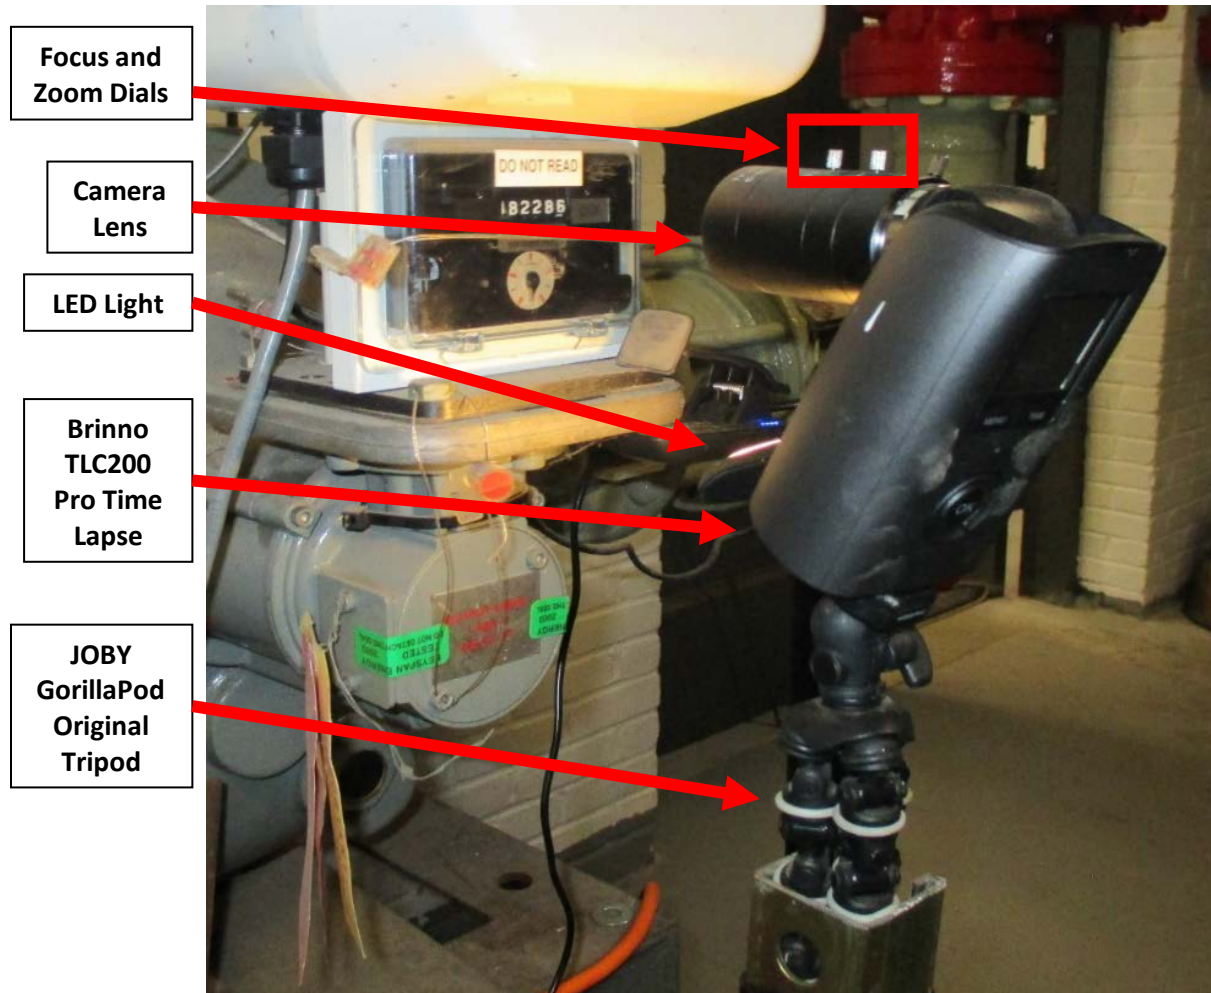

Figure A.11.10: Brinno TLC200 Pro Time Lapse Camera field setup for a boiler fuel consumption meter.
1. At the field site, install the JOBY GorillaPod Original Tripod into the base of the Brinno TLC200 Pro Time Lapse Camera. Then place the light on the JOBY GorillaPod Original Tripod or any other applicable surface in which the LED light shines on the meter. The setup should look like what is shown on Figure A.11.10.
- a. Note that the lens that is installed onto the Brinno TLC200 Pro Time Lapse Camera is not the original stock lens that came with the camera. The lens was replaced in order to give the user the ability to adjust the zoom. This replacement lens is heavy enough that it is unable to hold itself in position on the Brinno TLC200 Pro Time Lapse Camera’s body. That is why as shown on Figure A.11.10, the Brinno TLC200 Pro Time Lapse Camera’s body is tilted at an angle, in order to hold the lens at the appropriate position to take time lapse photos of the meter. Please take note of this when setting up the Brinno TLC200 Pro Time Lapse Camera.
3. Make sure that the image on screen is as clear as possible. Do this by turning the focus and zoom dials on the camera lens (Figure A.11.10). See Figure A.11.12. Note that the dial window may also be dirty, and should be cleaned before recording.